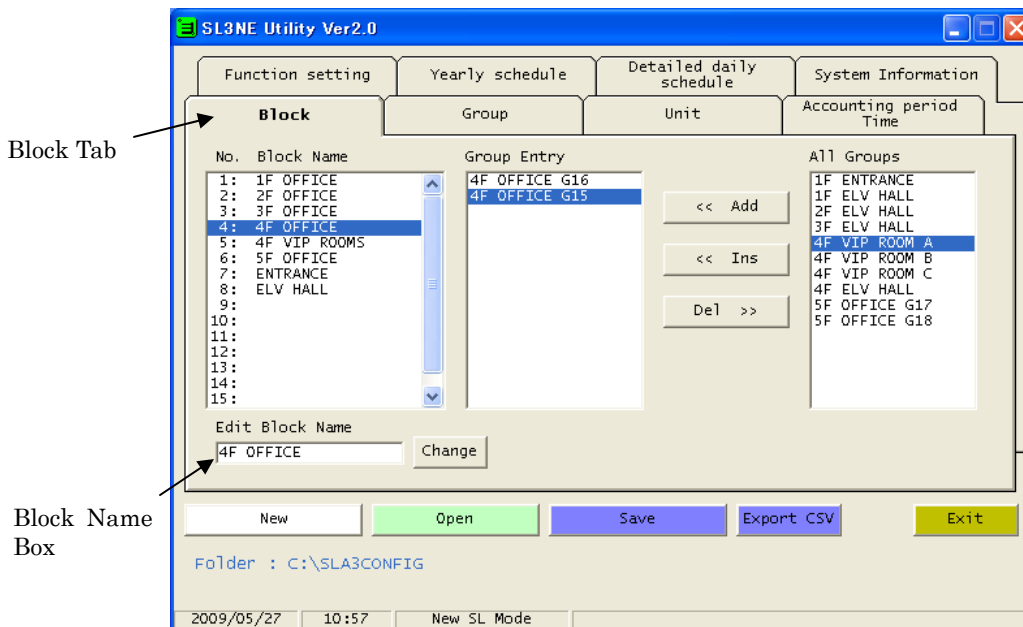

Fig.7 Block Definition screen
- Click on the “Block” tab, the Block Definition screen shown in Fig.7 will appear.